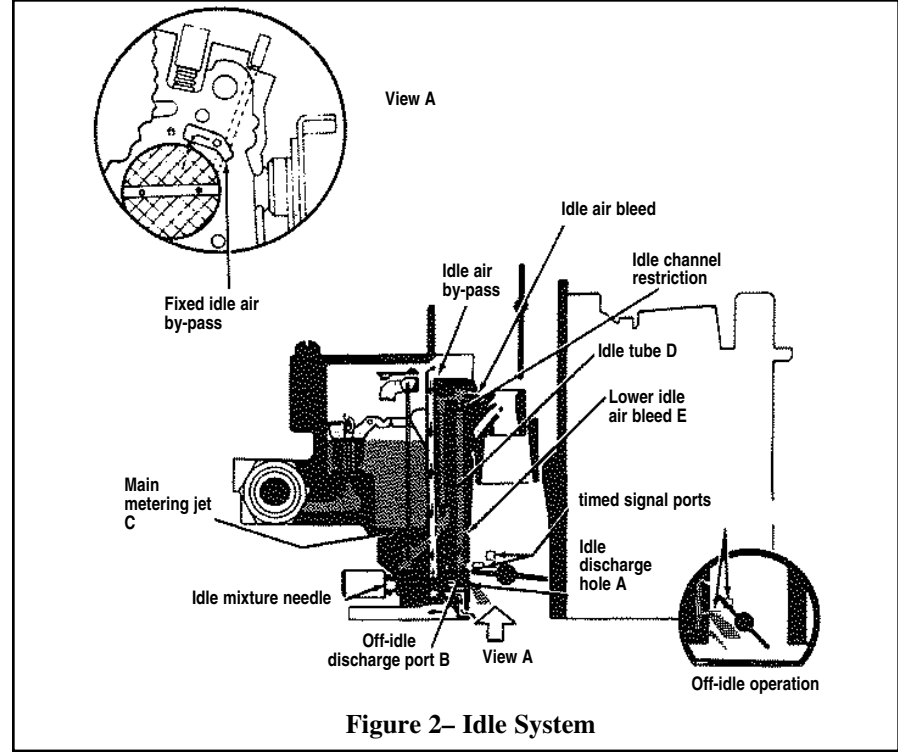

Figure 2- Idle System
Fuel is drawn through the Idle System (Fig. 2) by intake manifold vacuum that is communicated at the Idle Discharge Hole (A) and the Off Idle Discharge Port (B). Fuel in the bowl passes through the Primary Main Jet (PMJ) and Primary Metering Rod (PMR) restriction (C) into the Primary Well. It is picked up in the main well by the Idle Tube (D), and crosses over to the idle down channel. At this cross over point, additional air is mixed with idle fuel from the side idle air bleed. The mixture continues through the Idle Channel Restriction at the top of the down channel, past the Lower Idle Air Bleed (E) and Off Idle Port (or Transfer Slot), where it is further mixed with air. The idle mixture then moves past the adjustable Idle Mixture Screw and into the throttle bore through the Idle Screw Port. The Transfer Slot is a large air bleed when the throttle is closed, but as the throttle is opened the slot is exposed to manifold vacuum and becomes a discharge port for Idle System fuel. The Idle Screw Port is a variable discharge restriction that is adjusted by the engine tuner to achieve the desired A/F Ratio at idle.